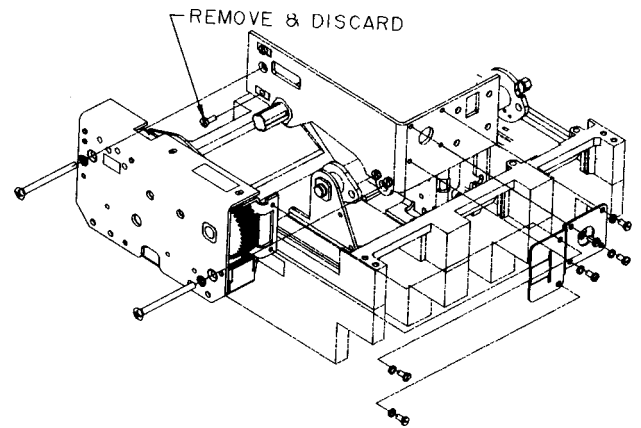
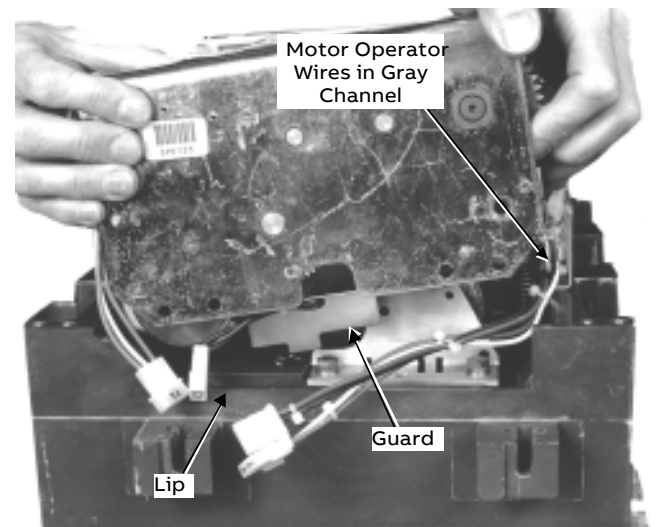
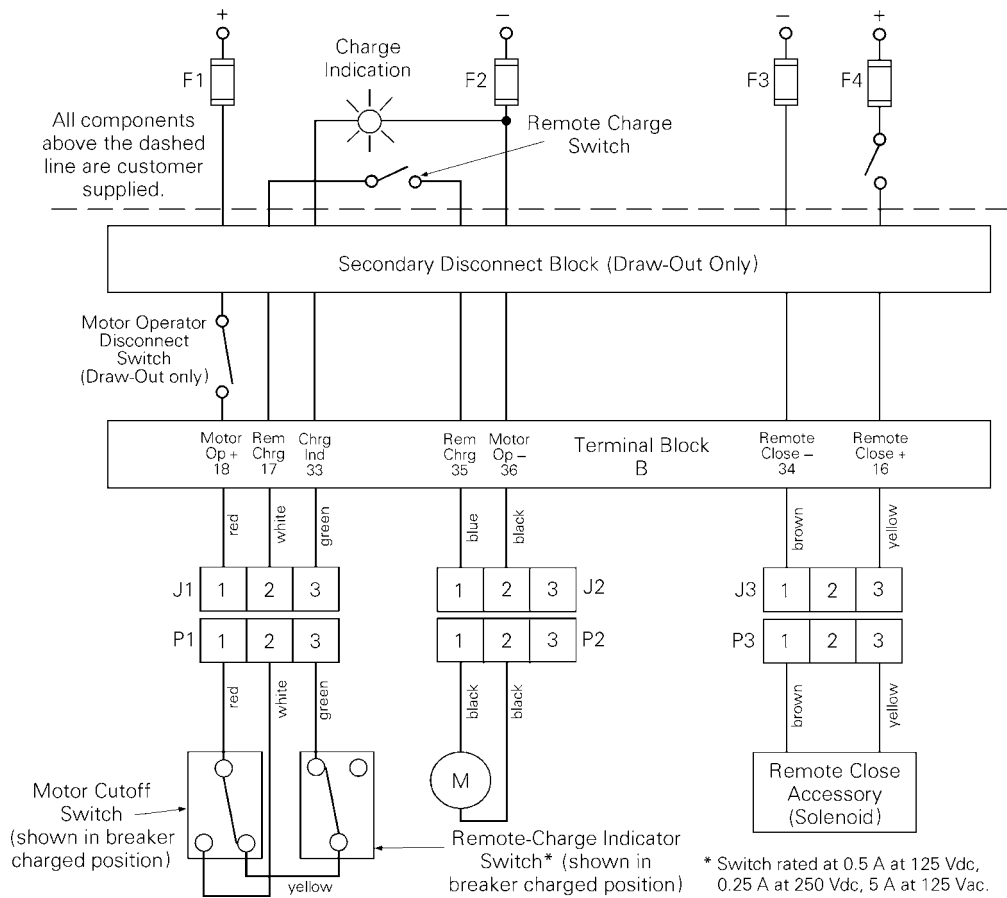

Figure 4. Installing the Motor Operator Mechanism onto the breaker.
Figure 5. Rotating the Motor Operator Mechanism so that the guard clears the lip on the side of the circuit breaker.
Figure 6. Wiring diagram of the Motor Operator Mechanism and Remote Close accessories.
The circuit breaker closing springs can be charged remotely by shorting terminals 17 and 35 on the terminal block on the right side of the breaker, with a push button or similar device, for a minimum of five seconds. Power for the Motor Operator must also be applied to terminals 18 and 36, as shown in the wiring diagram in Figure 6.
9. **Remove and discard the bottom screw, shown in Figure 4, that attaches the stop block to the spring frame.**
11. While holding the charge arm of the Motor Operator Mechanism in the discharged position, align the splined closing shaft of the breaker with the splined cutout in the hub of the charge arm, as shown in Figure 4. Tilt the right end of the mechanism up so that the guard (see Figure 2) clears the lip on the side of the breaker, as shown in Figure 5. Push the Motor Operator Mechanism in past the lip, rotate it back down, then push it onto the breaker until the spacers engage the spring frame and the stop block.
14. Thread a 1/4-20 flat-head screw and conical lock washer through the spacer and into the stop block, as illustrated in Figure 4. Thread the other 1/4-20 flat-head screw and conical lock washer through the spacer into the captive nut in the spring frame. Tighten both screws to 70 in-lb.
15. Plug the color-coded, numbered Motor Operator Mechanism wires into the corresponding numbered sockets, as illustrated in Figure 6. Mating connector wires are installed at the factory and are located in the gray-painted channel, shown in Figure 5.
17. **Remove and discard the bottom screw that attaches the stop block to the spring frame, shown in Figure 4.**
18. Attach the mounting bracket, as shown in Figures 4 and 19, with four #10-32 screws tightened to 32 in-lb torque. The bend of the bracket must be outward from the spring frame
22. Thread a 1/4-20 flat-head screw and conical lock washer through the spacer and into the stop block, as illustrated in Figure 4. Thread the other 1/4-20 flat-head screw and conical lock washer through the spacer into the captive nut in the spring frame. Tighten both screws to 70 in-lb.
23. Plug the color-coded, numbered Motor Operator Mechanism wires into the corresponding numbered sockets on the wires coming from the secondary terminal block, as illustrated in Figure 6.